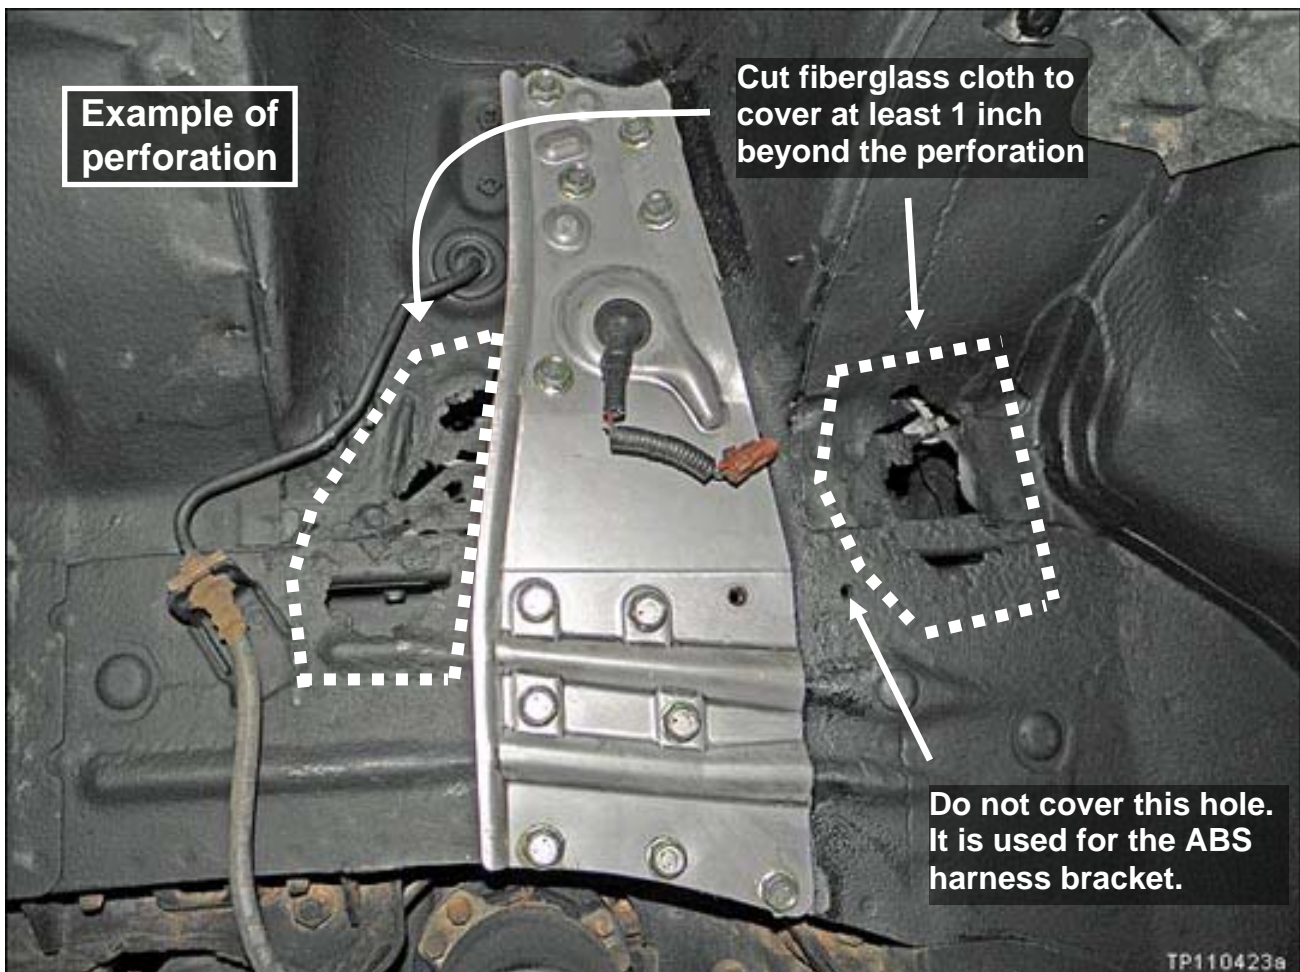

Figure RB29
**NOTE:** The Photo in Figure RB29 is an example of possible perforation. The vehicle you are working on may have perforation in additional areas, areas different than these, or may not have any perforation.
33. Cut fiberglass cloth to cover perforated areas (see example in Figure RB29).